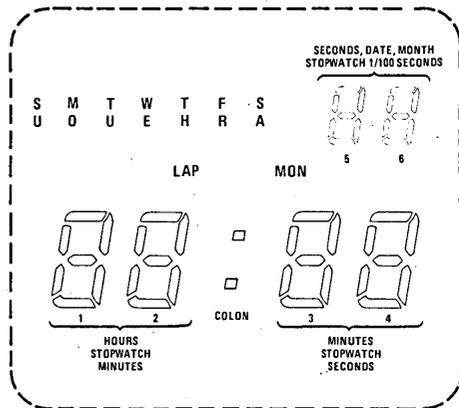

FIGURE 5. Display Format
**Watch Mode:** When used as a watch, the MM5890 has two display modes. The first mode displays the HOUR in digit positions 1 and 2, the MINUTE in digit positions 3 and 4, the DATE in digit positions 5 and 6 and the DAY-OF-THE-WEEK (Figure 5). The second mode will display SECONDS in digit positions 5 and 6 instead of the DATE. Depressing the Set/Display switch will change the watch from one mode to the other.
Depressing the Set switch will activate the Split Time mode. In this mode the watch will freeze the time showing on the display at the instant the Set switch is depressed. The stopwatch continues counting and the colon will begin blinking at a 1 Hz rate to indicate the continuing count. Depressing the Start/Stop switch will stop or start the stopwatch counters. The colon will remain "ON" in the Split Time mode if the stopwatch is not counting. The Split indicator (refer to Figure 5) will be "ON" during the Split Time mode. Depressing the Set switch while the watch is in the Split Time mode will return the accumulated time in the stopwatch to the display and the Split indicator will turn "OFF."